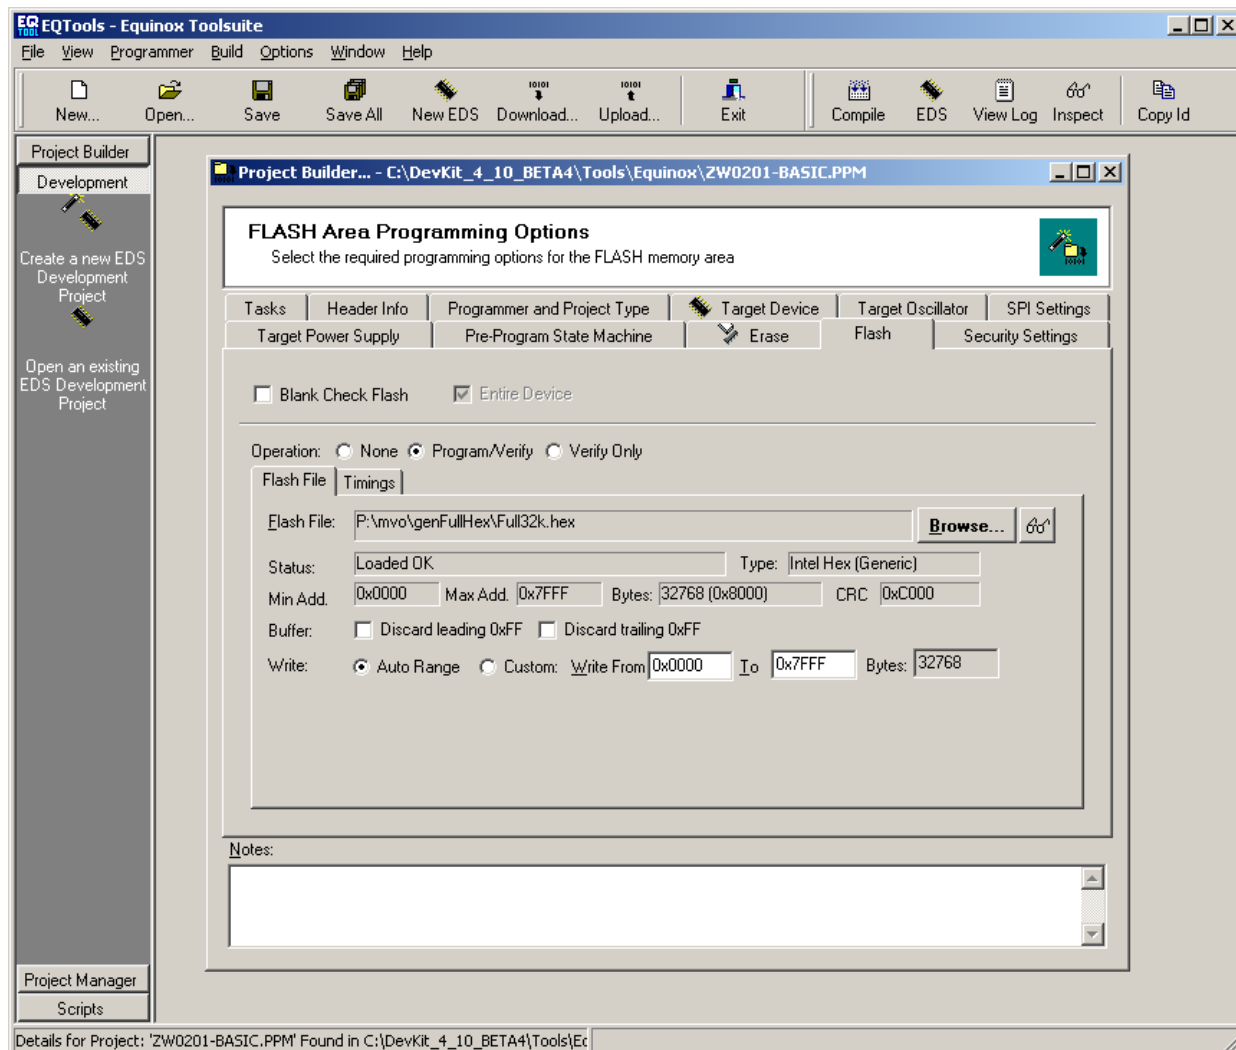

Figure 14 FLASH Area Programming Options window
7. Open the *FLASH Area Programming Options* window by clicking the *Flash* tab as depicted in Figure 14